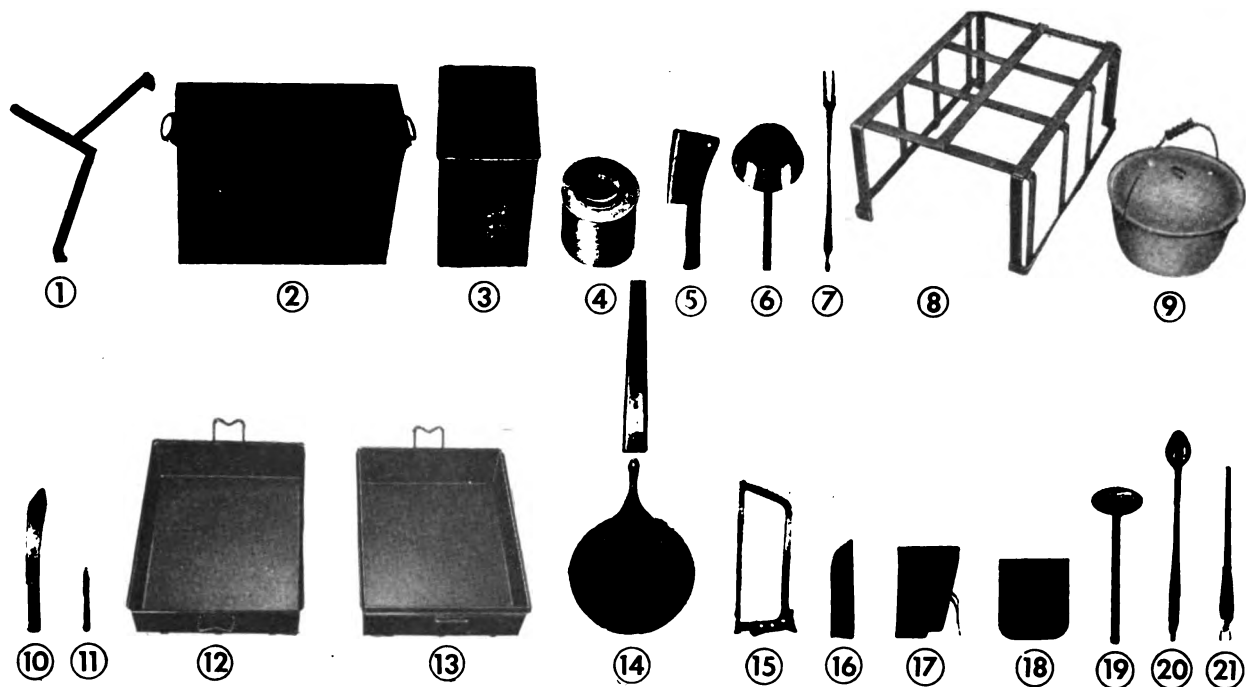

Figure 28. Outfit, cooking, mountain artillery, complete (64-O-210).
d. The outfit, cooking, mountain artillery, complete (see fig. 28) is made up of the following components: